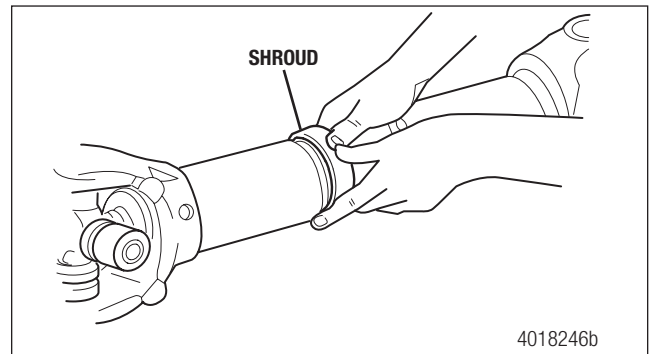

Figure 5.16
9. Snap the shroud over the seal. Figure 5.16.